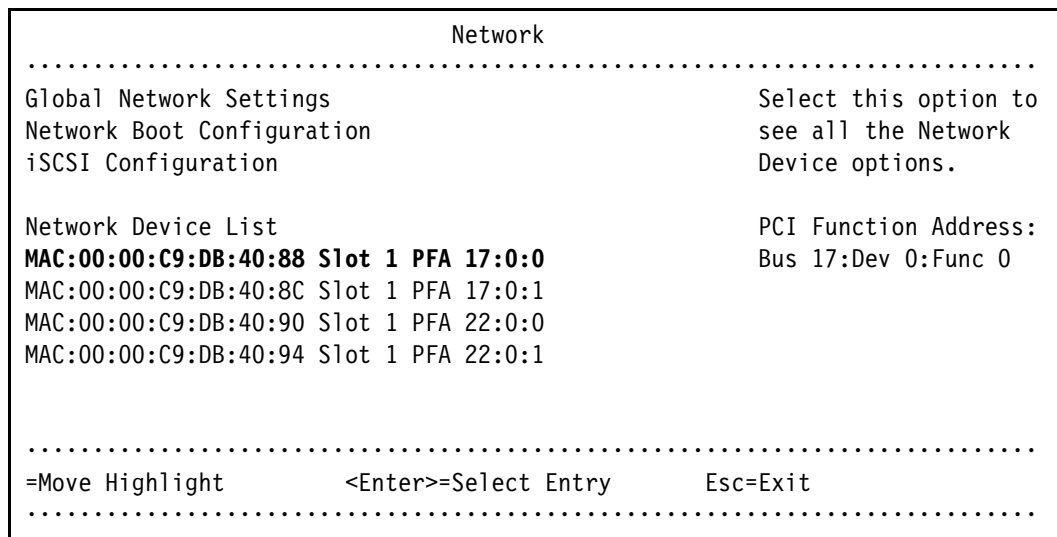

Figure 7-14 Network settings
1. Press F1, and in the System Configuration and Boot Management panel, select **System Settings** → **Network** → **Network Device List**. Select the first entry, as shown in Figure 7-14.